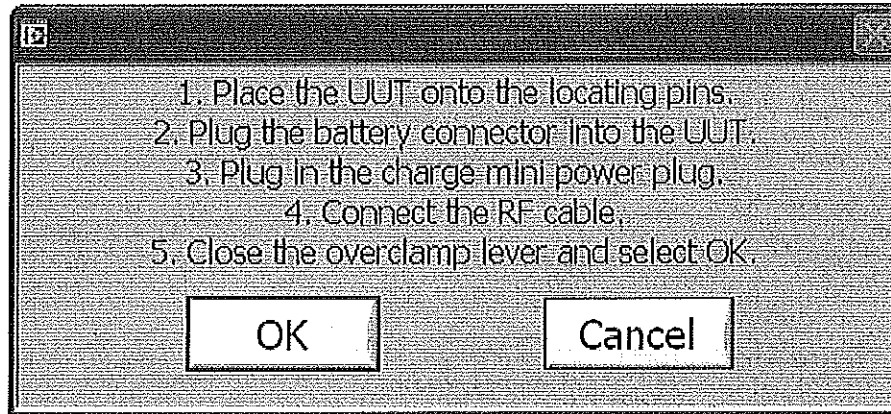

Figure 8 – Dialog Window.
4. A dialog window (Figure 8) will open instructing the operator to: